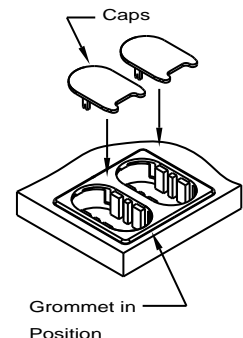

Figure 6
6. Slide the cap into the grommet until it is flush (Figure 6).